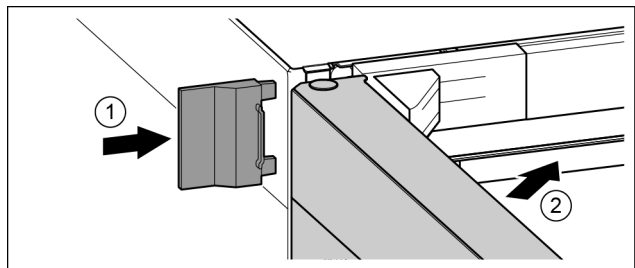

Fig. 42
- ▶ Slide on the external cover. Fig. 42 (1)
- ▶ Close the upper door. Fig. 42 (2)